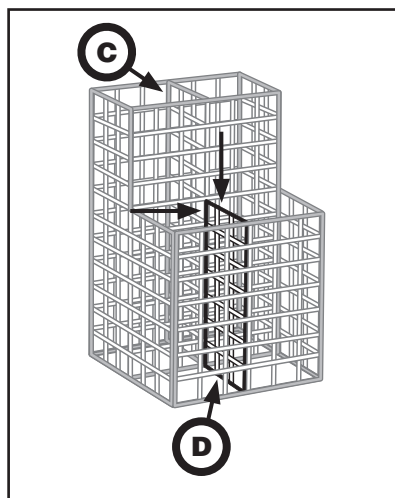

Figure 5
- 8** Attach small grid divider (**D**) as in *Figure 5*. Use large clips to attach (**D**) to (**C**).